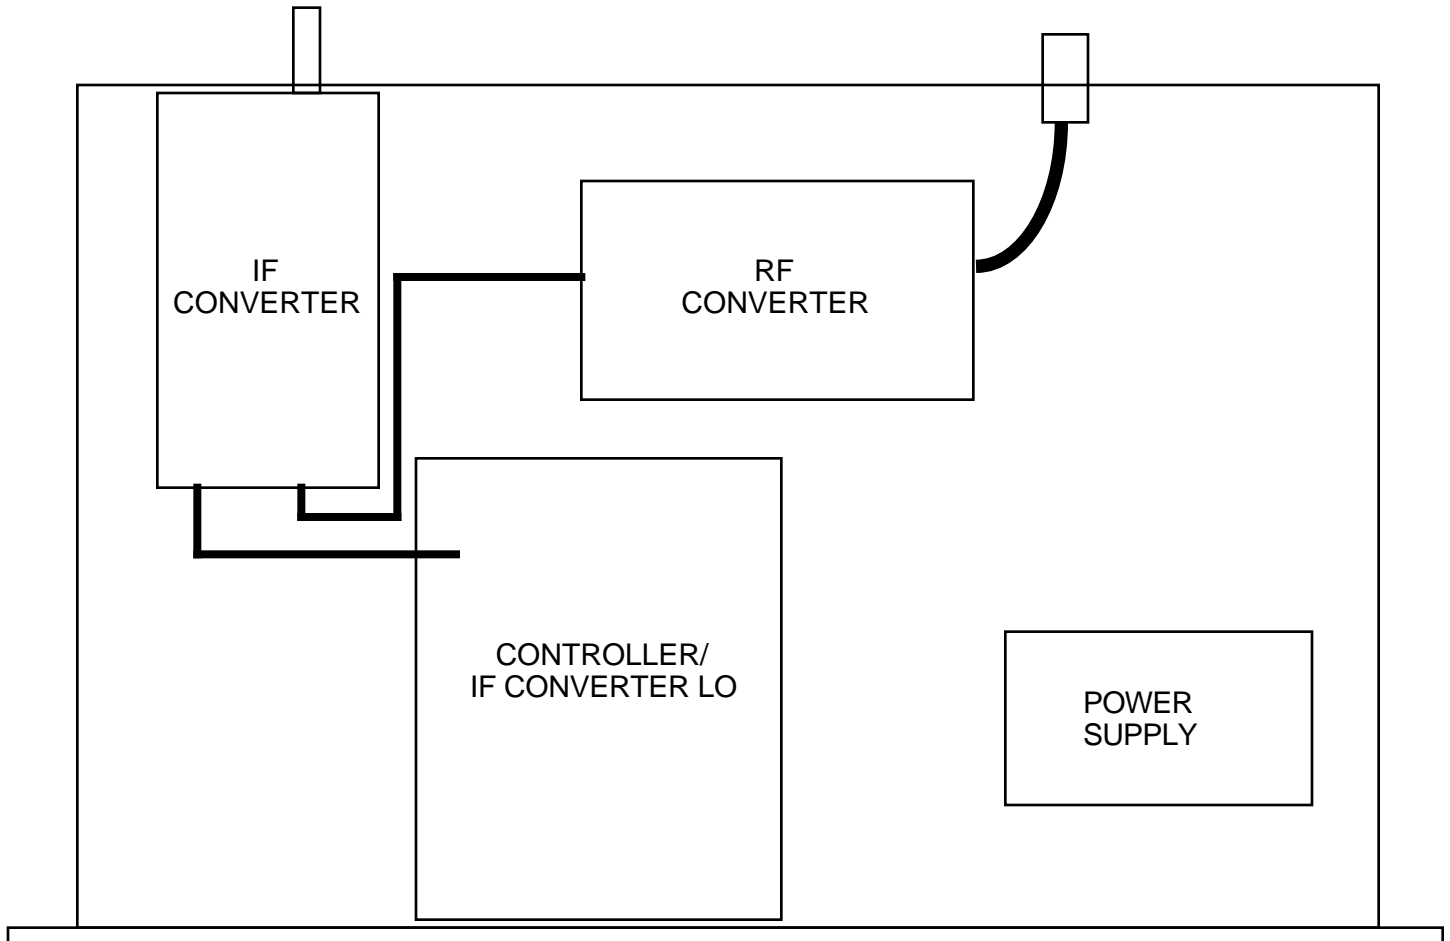

FIGURE 2.0 5089 MECHANICAL ASSEMBLY
2.1 Mechanical - The 5089 consists of two RF Assemblies and one Controller/LO PCB housed in a 1 RU (1 3/4 inch high) by 12 inch deep chassis. A switching, ± 15 VDC power supply provides power for the assemblies. The 5089 can be secured to a rack using the 4 holes on the front panel. Figure 2.0 shows how the 5089 is assembled.